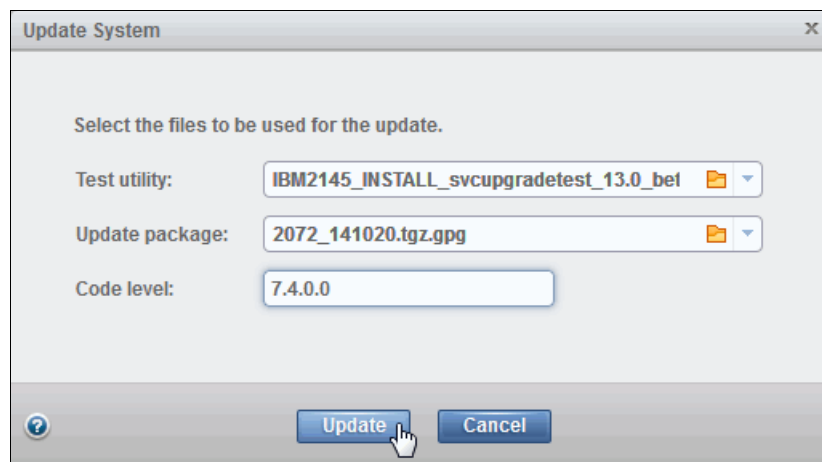

Figure 11-35 Select Test utility and software Update package
3. Select the Test utility and Update package files by clicking the folder icon in the corresponding input field. Enter the version of the code level that you are updating to and click **Update** to continue, as shown in Figure 11-35.